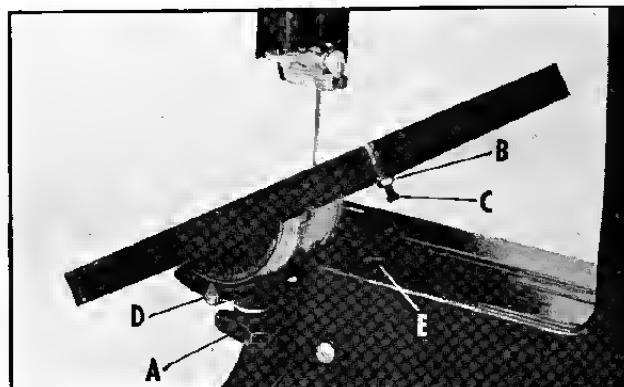
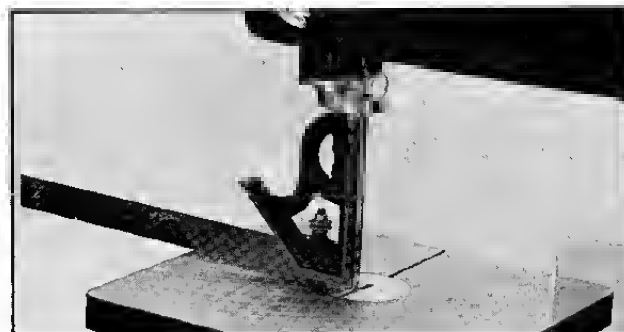

Fig. 20
Fig. 21
The table tilts 45 degrees to the right and about 10 degrees to the left. To tilt the table, loosen hand knob (A) Fig. 20, tilt table to desired position and tighten hand knob (A).
1. Loosen hand knob (A) Fig. 20. Move the table until pointer (D) points to the "0" degree mark on the scale and tighten hand knob (A).
2. Place a square on the table with one end of the square against the blade, as shown in Fig. 21. Make sure the blade is at 90 degrees to the table. If it is not, loosen hand knob (A) Fig. 20, and move the table until you are certain the blade is at 90 degrees to the table. Tighten hand knob (A). Then adjust the pointer to the "0" degree mark on the scale.
3. Loosen locknut (B) Fig. 20, and turn the stop screw (C) in or out so that it contacts the frame (E) when the table is at 90 degrees to the blade. Then tighten locknut (B) Fig. 20.
4. If you desire to tilt the table to the left, the stop screw (C) and locknut (B) Fig. 20, must be removed.